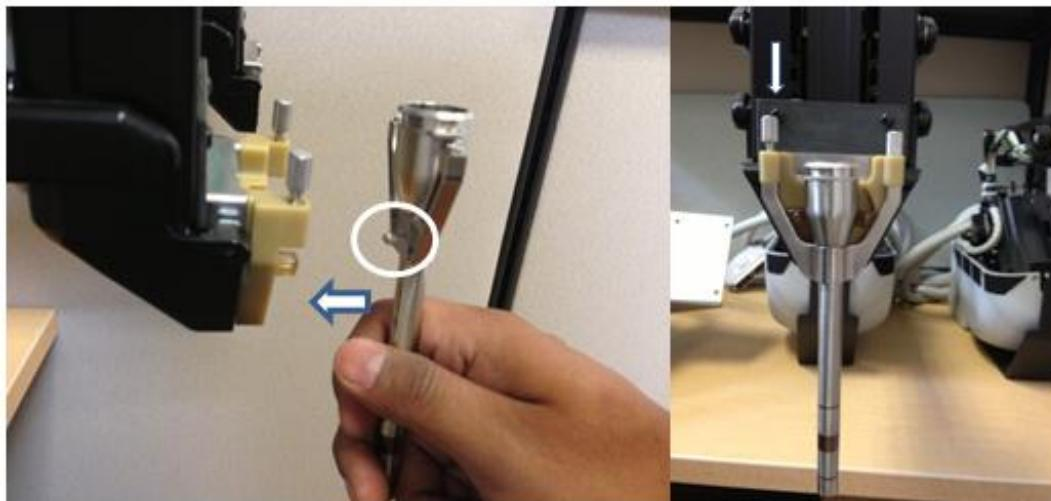

FIGURE 29: INSTALLING THE CANNULA.
2. Once in place fasten the cannula by the two screws present on the cannula holder as shown in Figure 29. Be careful to avoid cross-threading!